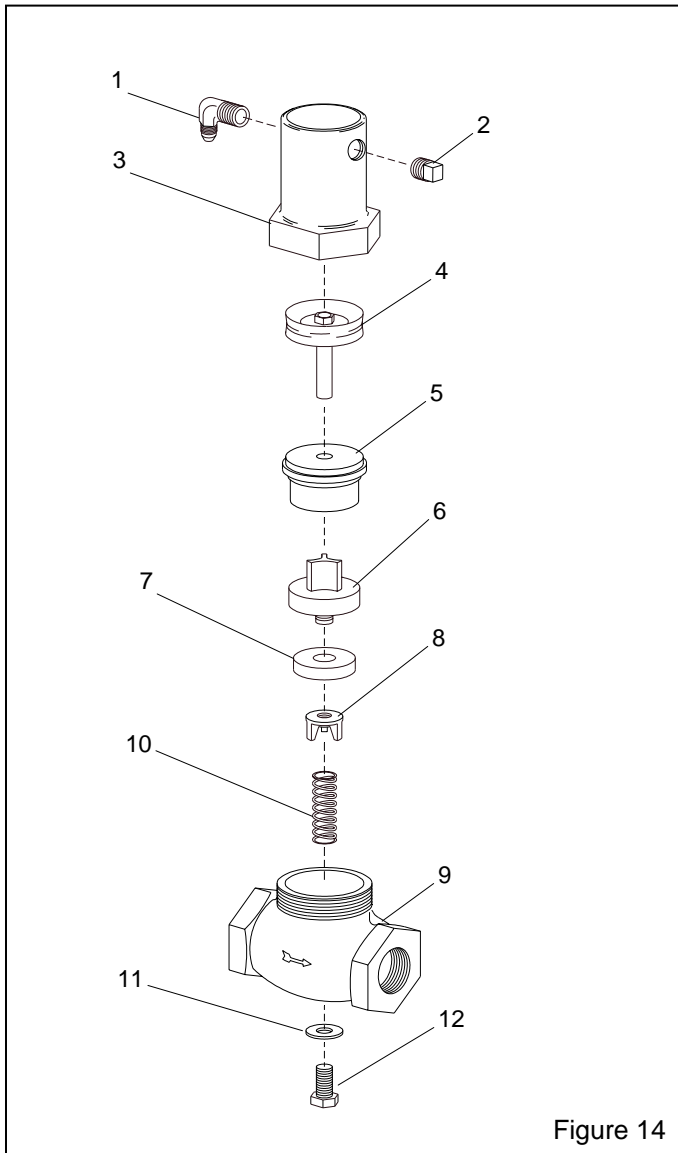

Figure 14
7.8 1" Piston Outlet Valve, Figure 14